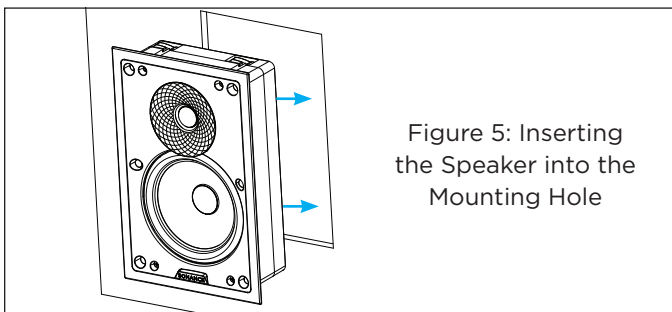

Figure 5: Inserting the Speaker into the Mounting Hole
- Insert the speaker into the mounting hole and tighten the four screws on the front of the speaker baffle (see Figure 5).